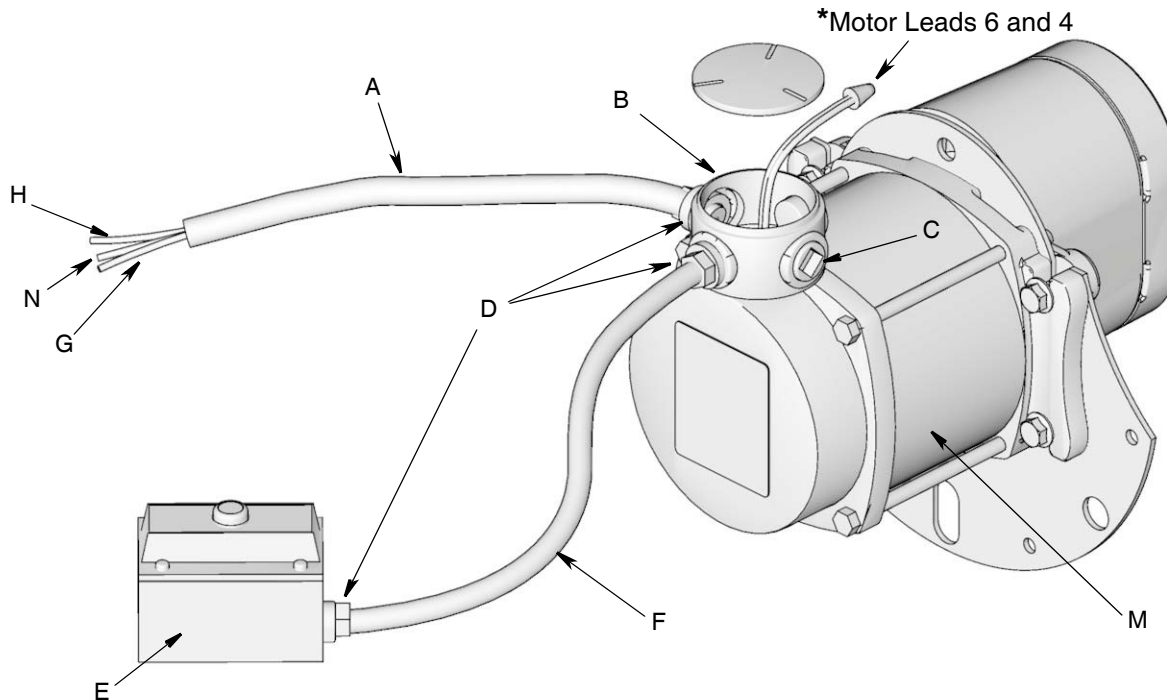
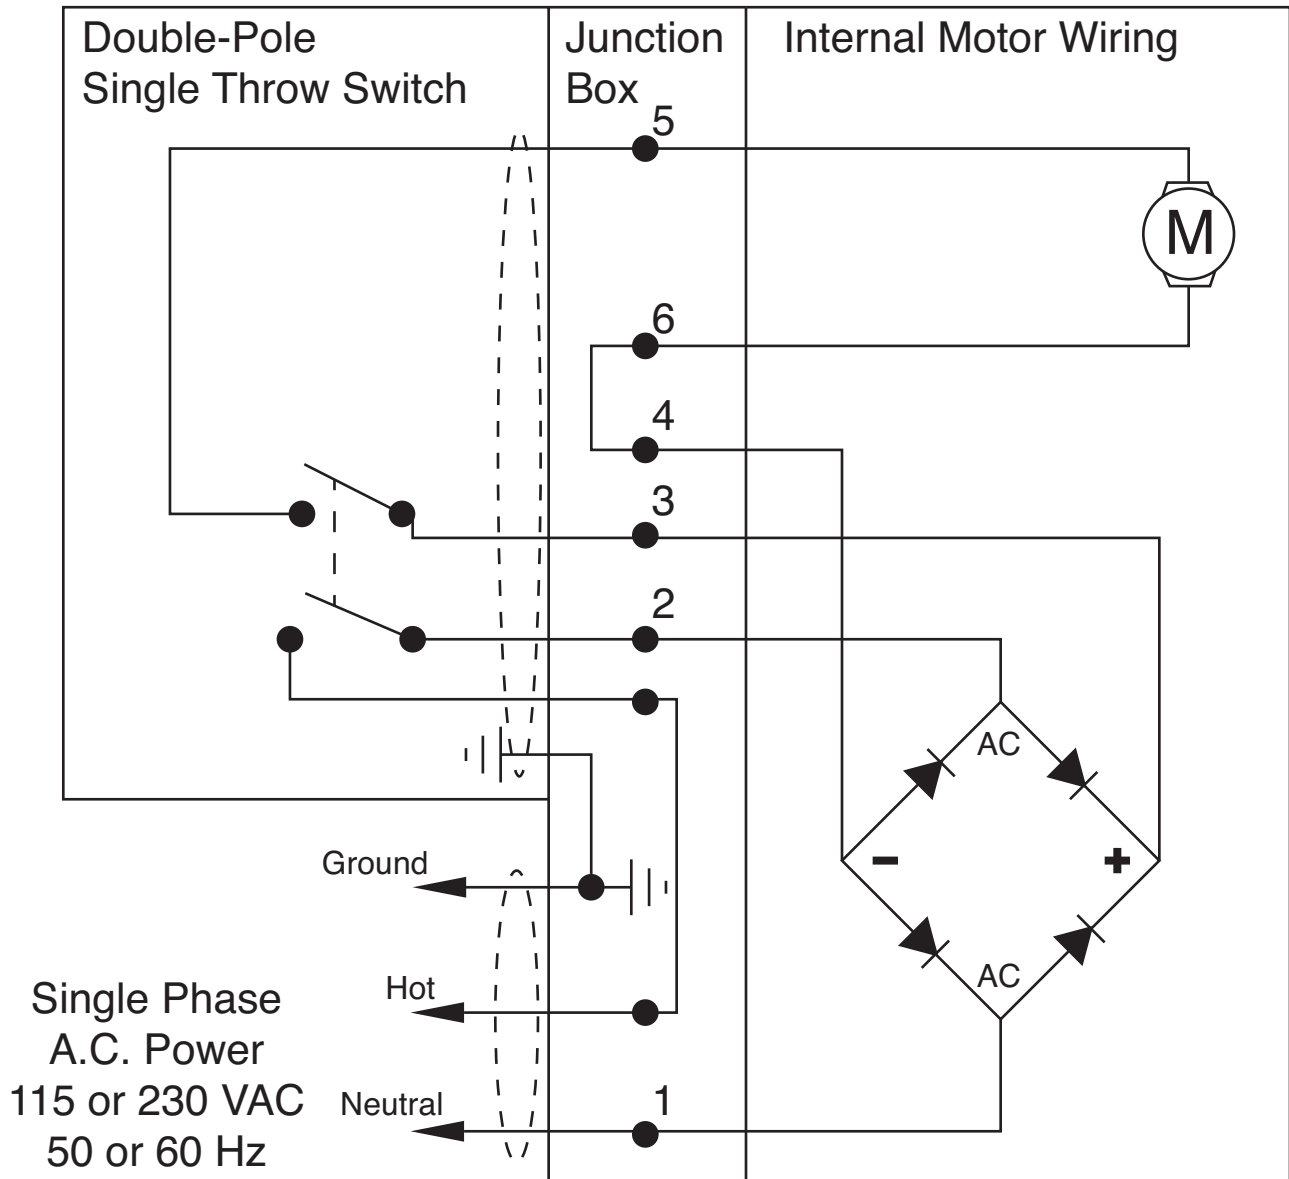

FIG. 10
FIG. 11
Follow wiring diagram provided in FIG. 10 and wiring schematic FIG. 11.
- c. Apply a light coating of grease to the o-ring (18).
- d. Install outlet (17) on reel.
- e. Reinstall bolts (19). Tighten all four bolts securely. Torque bolts to 24 to 30 ft. pounds (32.54 to 40.67 N.m)
- Electric Motors - AC Models Swap leads 5 and 6 (FIG. 11, page 22).